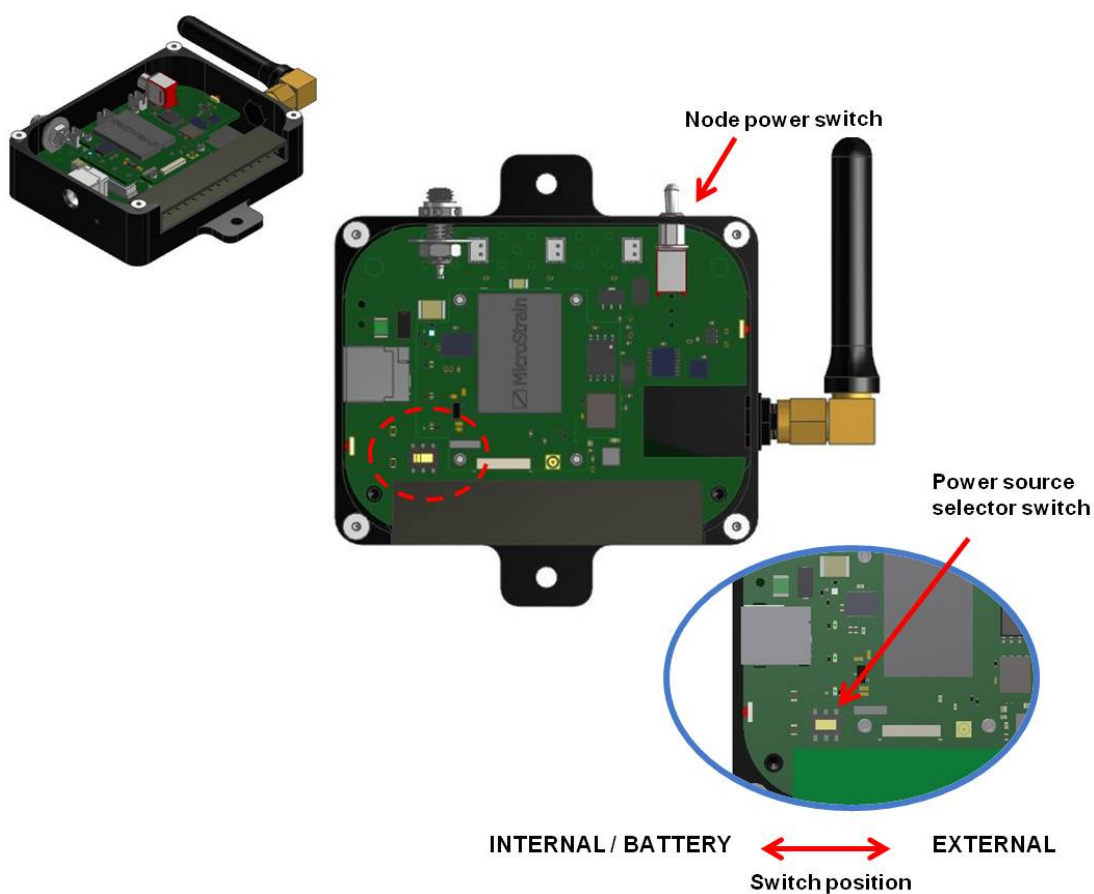

Figure 21 - Power Source Selection
3. Use a small flat head screwdriver to push the recessed switch fully to the desired position, as indicated in Figure 21 - Power Source Selection. The figure shows the node configured for an external power source.